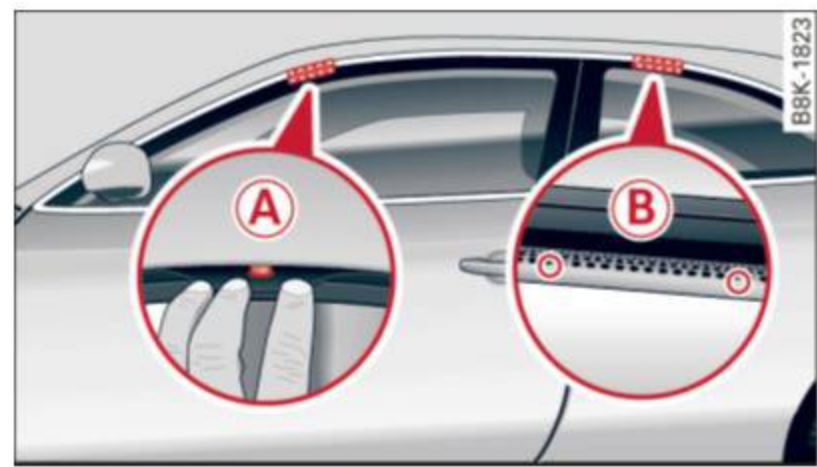

Fig. 63 Roof rack attachment points
- When installing the roof rack, make sure it is only mounted on the designated locations on the roof ⇒ *fig. 63.*
- Only mount the roof rack on the designated locations on the roof ⇒ *fig. 63*.